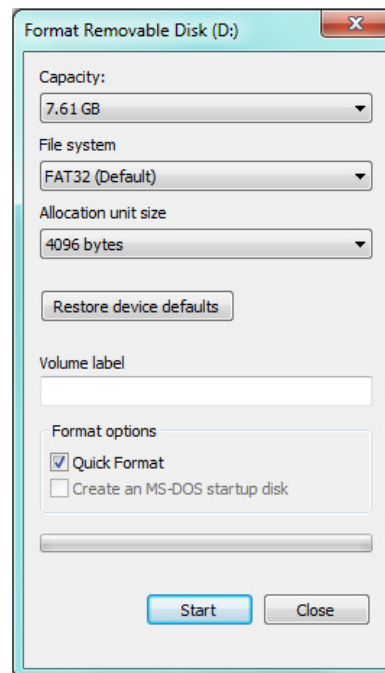

Figure 3 Format the USB Drive
7. Right-click on the drive and select the option marked 'Format'. The window will open as per *Figure 3*.